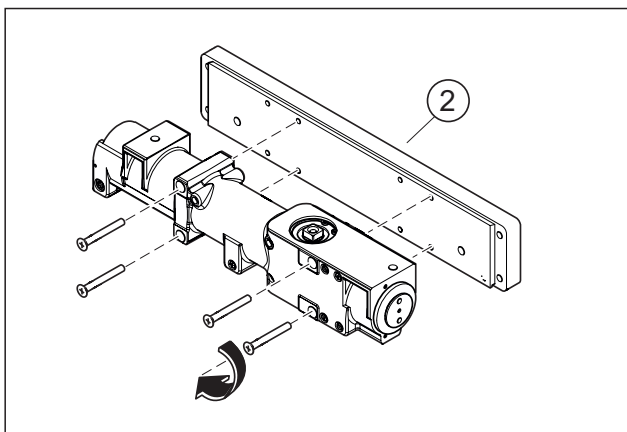

Fig. 7 Mount the door closer
1. Mount the door closer on the carrying plate (Fig. 7).